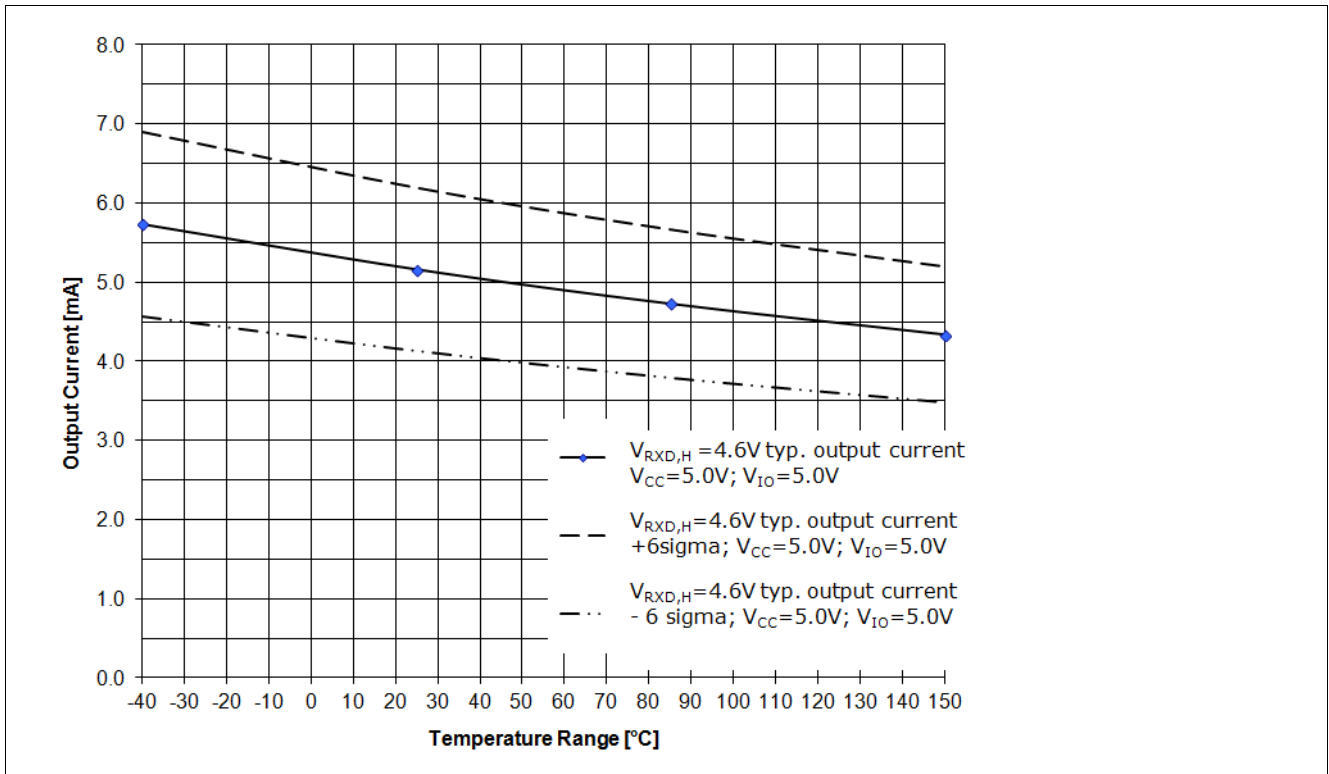
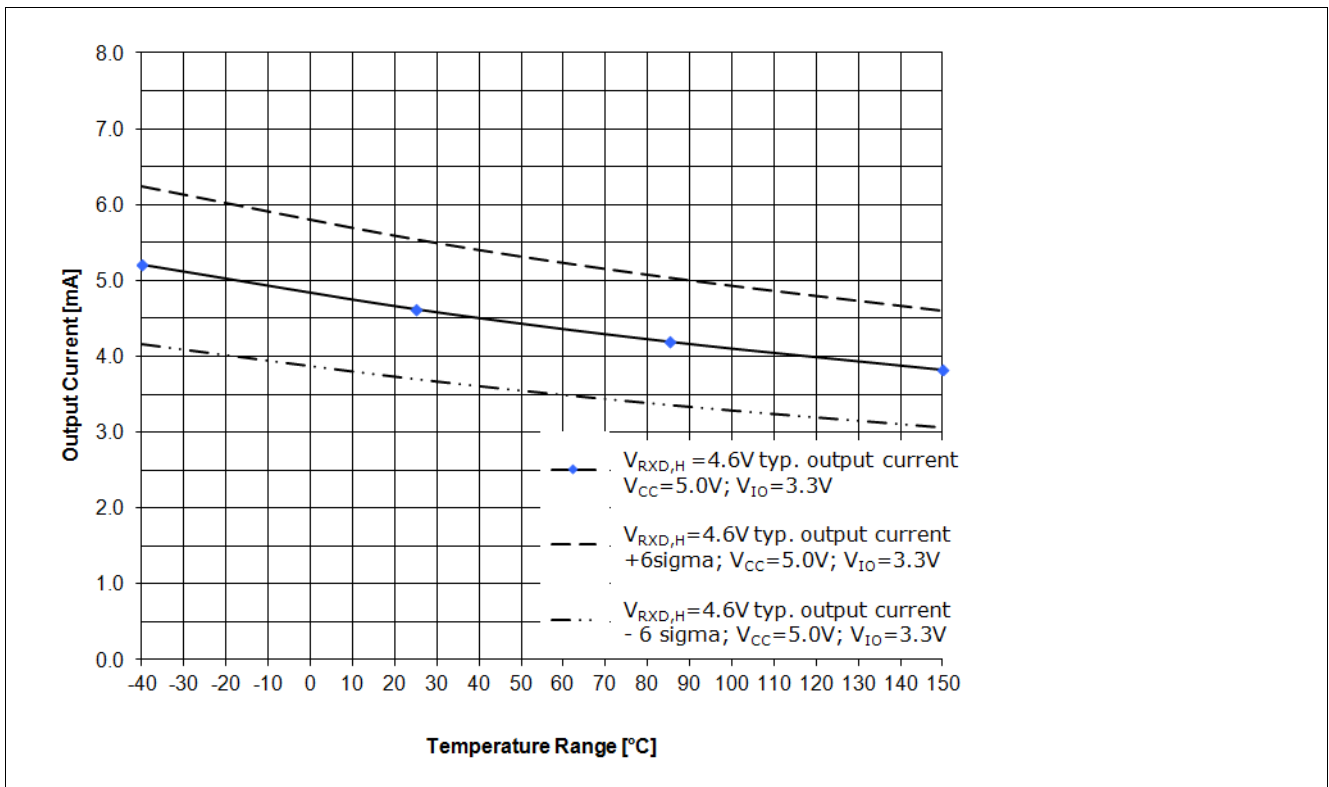

Figure 11 RxD Output driver capability for a logical “High” signal $V_{RxD,H}=4.6\text{ V}$, $V_{CC}=5.0\text{ V}$, $V_{IO}=5.0\text{ V}$ ¹⁾
Figure 12 RxD Output driver capability for a logical “High” signal $V_{RxD,H}=4.6\text{ V}$, $V_{CC}=5.0\text{ V}$, $V_{IO}=3.3\text{ V}$ ¹⁾
The diagram in Figure 11 shows the output current capability of the RxD output pin depended on the chip temperature T_J at a V_{IO} power supply of 5.0 V. Figure 12 shows the output current capability of the RxD output pin at a V_{IO} power supply of 3.3 V.
- The curve “ $V_{RxD,H} = 4.6$ V; **typ. output current**; $V_{CC} = 5.0$ V; $V_{IO} = 5.0$ V;” displays the typical output current at the RxD output pin of the TLE8250GVIO (see Figure 11).
- The curve “ $V_{RxD,H} = 4.6$ V; **typ. output current + 6 sigma**; $V_{CC} = 5.0$ V; $V_{IO} = 5.0$ V;” displays the expected maximum value of the output current at the RxD output pin (see Figure 11).
- The curve “ $V_{RxD,H} = 4.6$ V; **typ. output current - 6 sigma**; $V_{CC} = 5.0$ V; $V_{IO} = 5.0$ V;” displays the expected minimum value of the output current at the RxD output pin (see Figure 11).
- The curve “ $V_{RxD,H} = 4.6$ V; **typ. output current**; $V_{CC} = 5.0$ V; $V_{IO} = 3.3$ V;” displays the typical output current at the RxD output pin of the TLE8250GVIO (see Figure 12).
- The curve “ $V_{RxD,H} = 4.6$ V; **typ. output current + 6 sigma**; $V_{CC} = 5.0$ V; $V_{IO} = 3.3$ V;” displays the expected maximum value of the output current at the RxD output pin (see Figure 12).
- The curve “ $V_{RxD,H} = 4.6$ V; **typ. output current - 6 sigma**; $V_{CC} = 5.0$ V; $V_{IO} = 3.3$ V;” displays the expected minimum value of the output current at the RxD output pin (see Figure 12).